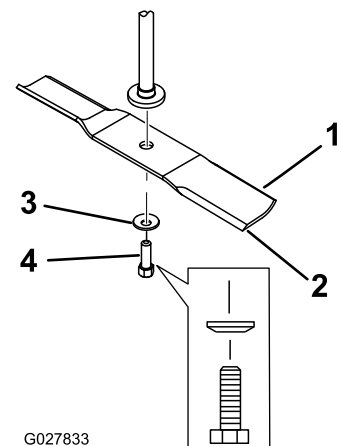

Figure 63
2. Remove the blade bolt, curved washer, and blade from the spindle shaft (Figure 63).
1. Install the blade onto the spindle shaft (Figure 63).
2. Install the curved washer (cupped side toward the blade) and the blade bolt (Figure 63).